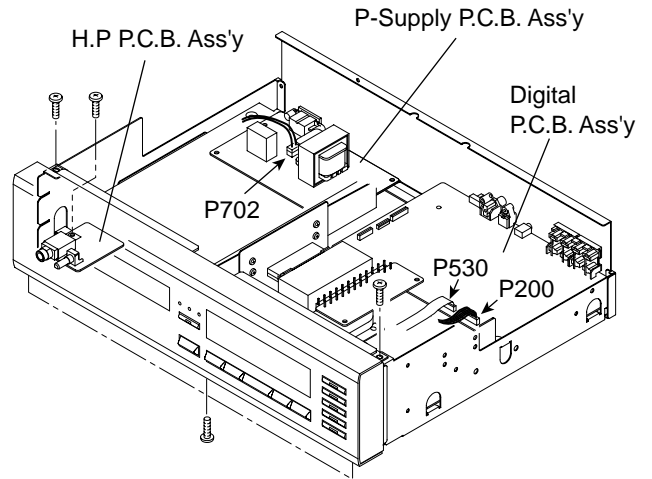

Fig.2-3
2.2 Front Panel (Refer to Fig. 2-3)